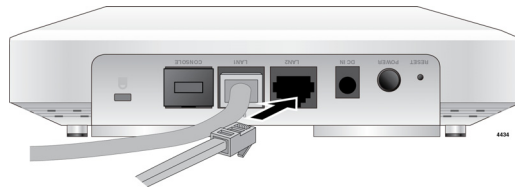

Figure 14. Connecting the Ethernet Cables to LAN2 Port
- b. Connect the second Ethernet cable into the RJ-45 LAN2 port. Refer to Figure 14